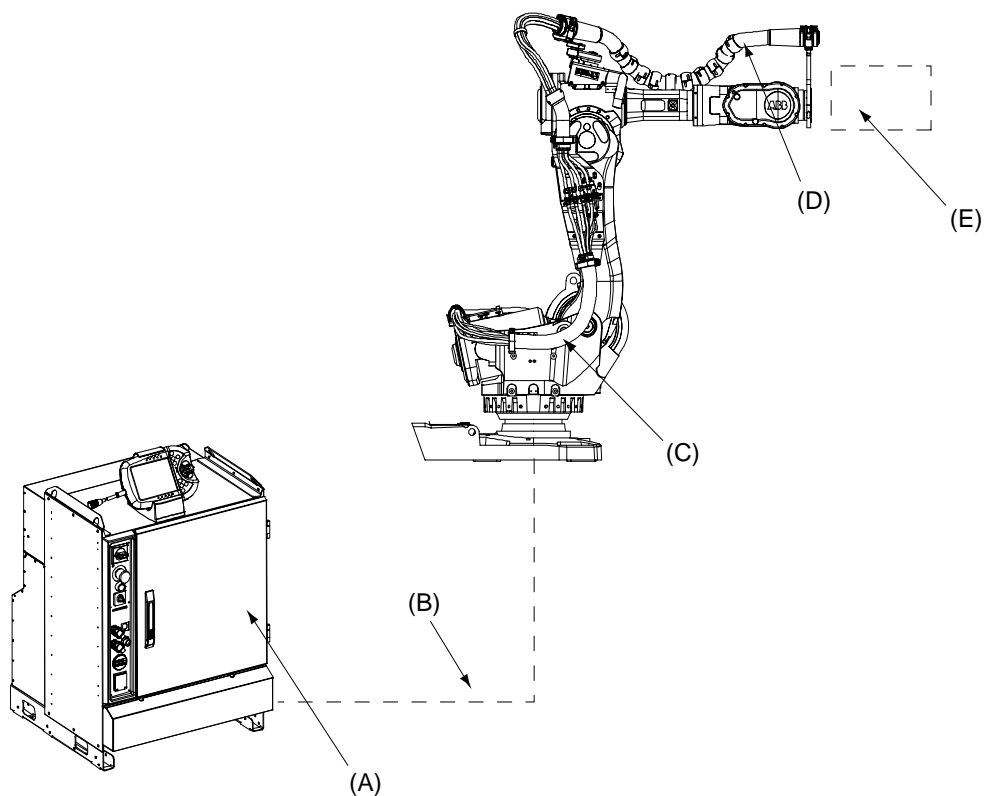

Figure 75 Dresspack shown with "Orange line" configurations.
Variant Type H is designed for Material Handling (MH) application. Included modules are shown in Figure 75.